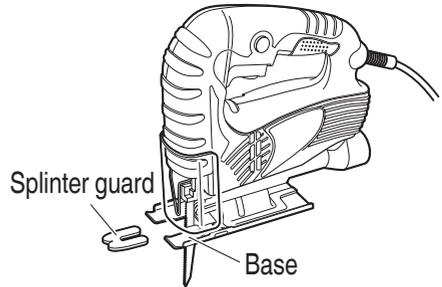

Fig. 7
- (2) Use the splinter guard to reduce roughness of the cutting surface of wooden materials. Attach the splinter guard by inserting it from the front section of the base until it clicks into place. (**Fig. 7**)